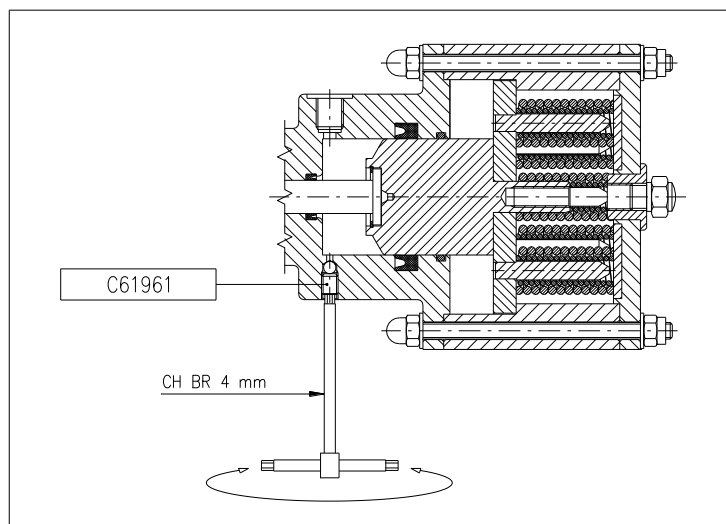

Figure 4
- 7. HYDRAULIC BRAKES:** Bleed air out of the oil circuit by loosening the grub screw C61961 with a n. 4 Allen key, until oil begins to come out. When all the air has been bled out tighten the grub screw again (Figure 4).